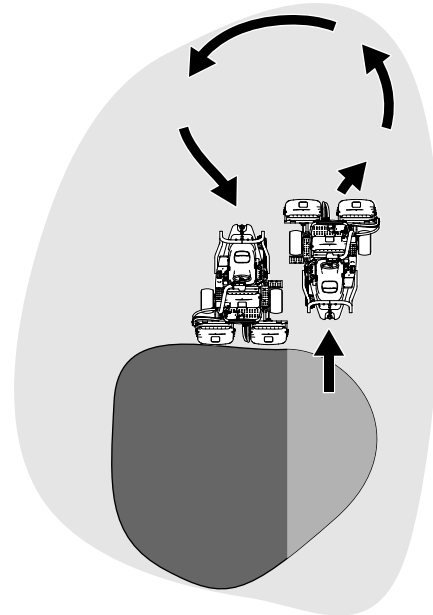

Figure 21
6. To cut down on operating time and to ease the lineup for the next pass, momentarily turn the machine in the opposite direction, then turn it in the direction of the uncut portion. This movement is a tear-shaped turn (Figure 21), which quickly lines the machine up for your next pass.